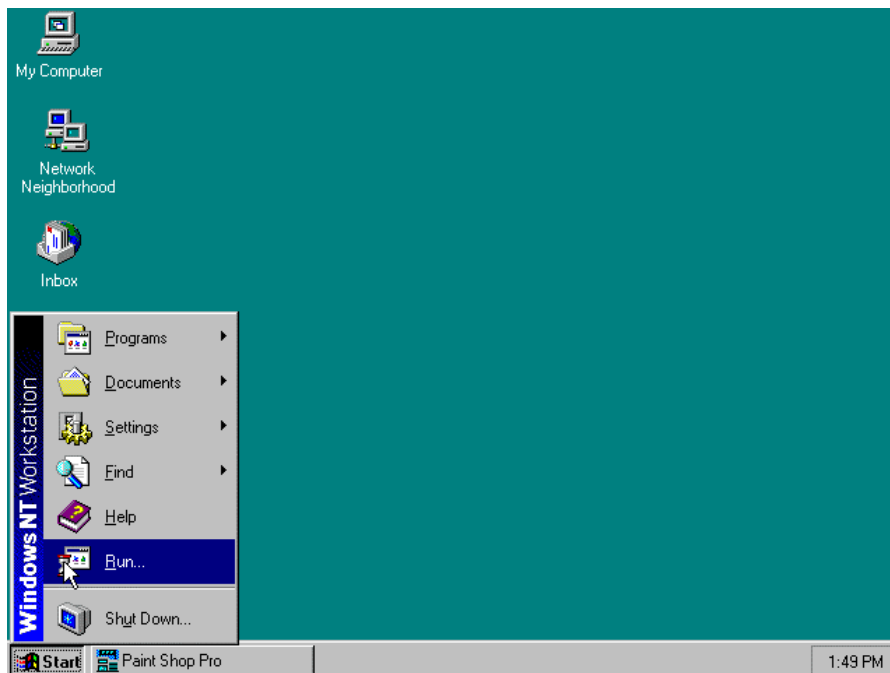

Figure 5 – Starting the Run dialog box
2. Select **START**, then the **Run** option on the Windows NT® taskbar. See Figure 5 below.